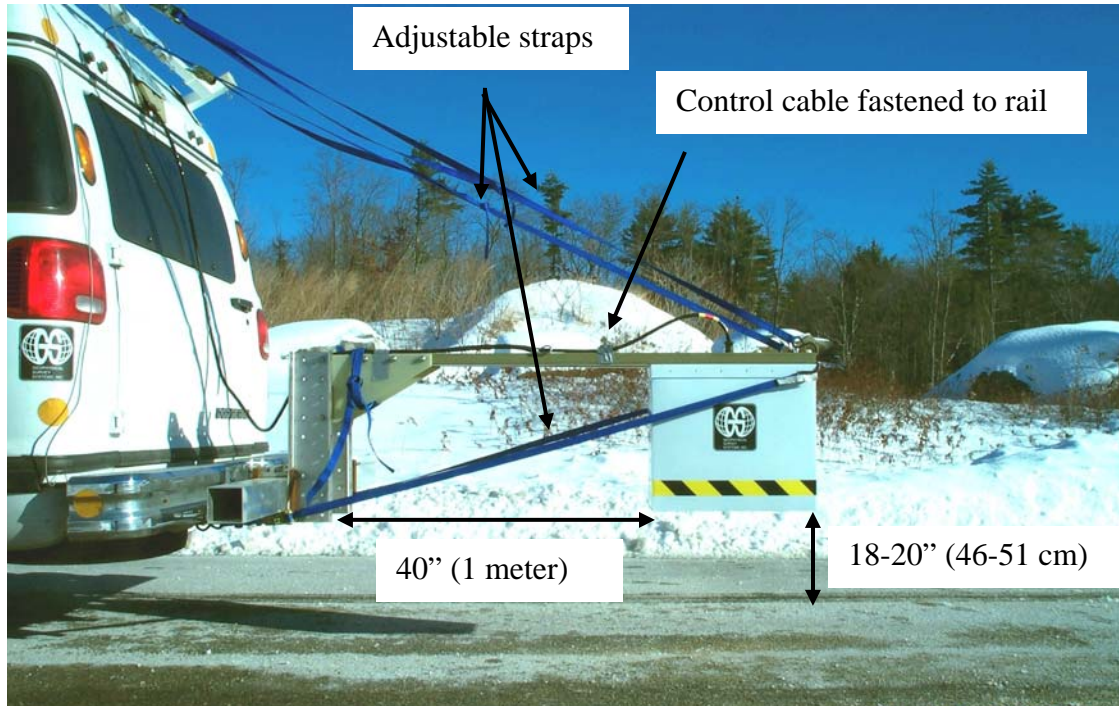

Figure 1: Typical Model 4105 setup showing fiberglass rods and gusset plates. The vertical metal pieces attached to the gusset plates are sold separately.
The Model 4105 antenna mounting kit includes 2 square fiberglass tubes, 2 gusset plates and associated hardware. Figure 1 shows a typical 4105 setup on the back of GSSI's van.
7. The position of the signal may be shifted and the data collection settings may be slightly different than those currently recommended. Change the signal position if necessary so that it is similar to the signal position shown in Figure 1.